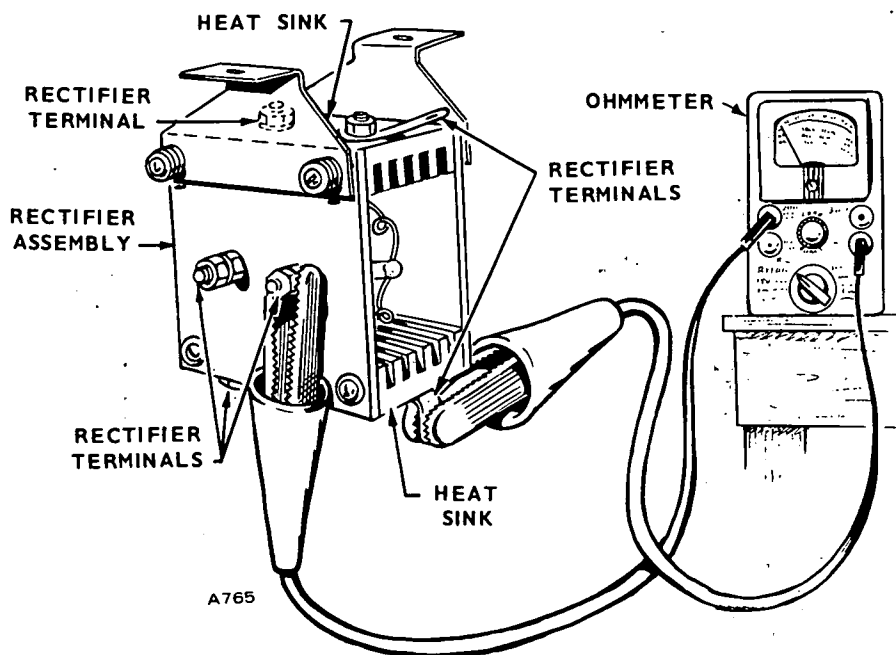

FIGURE 40. CHECKING RECTIFIERS (PRIOR TO SPEC V)
1. Completely isolate the rectifier assembly from the charging circuit by disconnecting all four wires. Test each rectifier separately with an ohmmeter or test lamp (Figure 40).